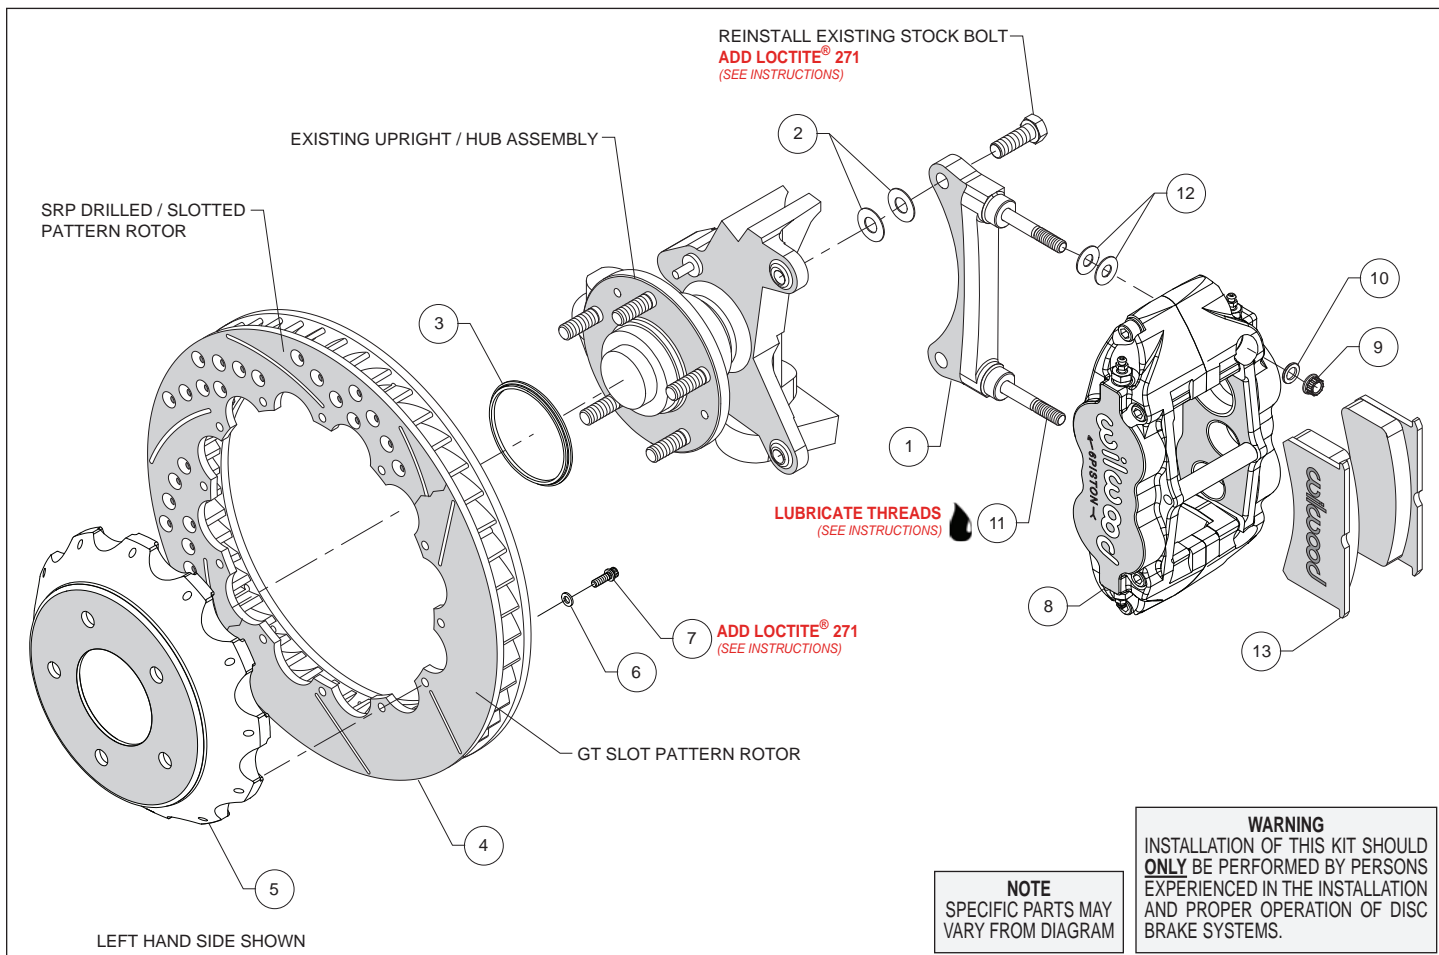
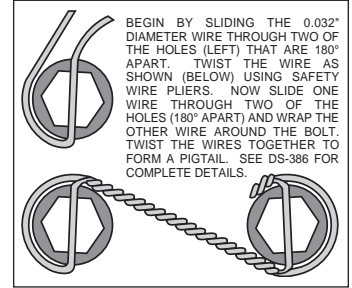

Figure 1. Typical Installation Configuration
Figure 3. Safety Wire Diagram
Assembly Instructions (numbers in parenthesis refer to the parts list and Figure 1 on the preceding pages):
- The caliper mount bracket (1) should initially be installed with clean, dry threads on the mounting bolts. Orient the bracket as shown in Figure 1, and install using saved Original Equipment Manufacturers (OEM) mounting bolts and shim washers (2). Initially place two shims (2) on each bolt between the bracket and upright, Figure 1. Temporarily tighten the mounting bolts. **NOTE:** The bracket must fit squarely against the mount bosses on the upright. Inspect for interference from casting irregularities, machining ridges, burrs, etc. Later, after the caliper alignment has been checked, the mount bolts will be secured using red *Loctite*® 271.
- Orient the rotor (4) and the hat (5) as shown in Figure 1 and Photo 1. Attach rotor to hat using bolts (7) and washers (6). Using an alternating sequence, apply red *Loctite*® 271 to the threads and torque bolts to 155 **in-lb**. For an added measure of security, the bolts may be safety wired using standard 0.032 inch diameter stainless steel safety wire as shown in Figure 3. Please refer to Wilwood's data sheet DS-386 (available at www.wilwood.com/Pdf/DataSheets/ds386.pdf) for complete safety wire installation instructions.
- Slide the rotor registration adapter (3) onto the axle register on the axle hub with the smaller O.D. facing outward, Photo 2. Slide the hat/rotor assembly onto the axle hub. **NOTE:** The hat must fit flush against the axle hub flange or excessive rotor run out may result. Install three lug nuts (finger tight) to keep the hat/rotor assembly in place while continuing with the installation.
- NOTE:** This kit contains distinct right and left hand calipers that must be mounted in a specific direction, as described below. Lubricate the caliper mounting studs (11) with lightweight oil. Initially place two .035" thick shims (12) on each stud as shown in Figure 1 and Photo 3. With the bleed screws pointing up, mount the caliper (8) onto the bracket (1) using lock nuts (9) and washers (10), Figure 1 and Photo 4. Ensure that the caliper is mounted so that the largest pistons are at the rotor exit end of the caliper, in relation to the direction of rotor rotation. Temporarily tighten the lock nuts and view the rotor through the top opening of the caliper. The rotor should be centered in the caliper, Photo 5. If not, adjust by adding or subtracting shims (2) between the bracket and the upright. Always use the same amount of shims on each of the two mounting bolts. Once the caliper alignment is correct, remove the bracket mounting bolts one at a time, apply red *Loctite*® 271 to the threads, and torque to manufacturer's specifications.